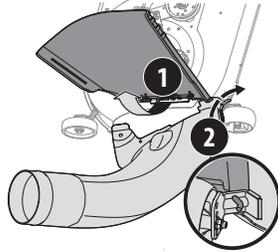

Figure 17
1. With the tractor's discharge chute raised up and held open (1), install the boot by placing the boot mounting rod into the chute mounting tab (2), as shown in Figure 17.